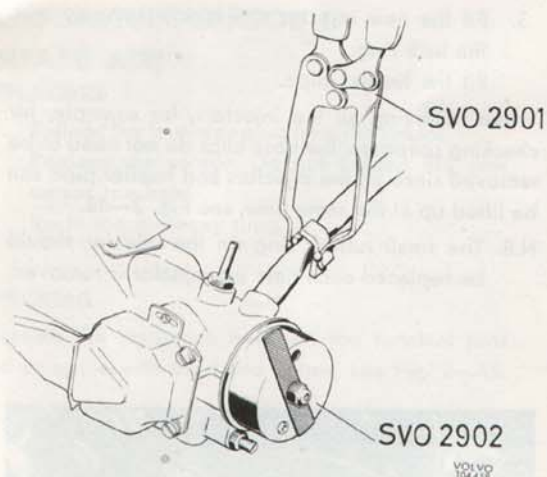

Fig. 2—49. Cover for ignition adjustment
3. Start the engine. Fit the plastic cover, SVO 2902, as shown in Fig. 2—49 and adjust down the speed to 700—800 r.p.m. by moving the plate across the hole in the plastic cover.